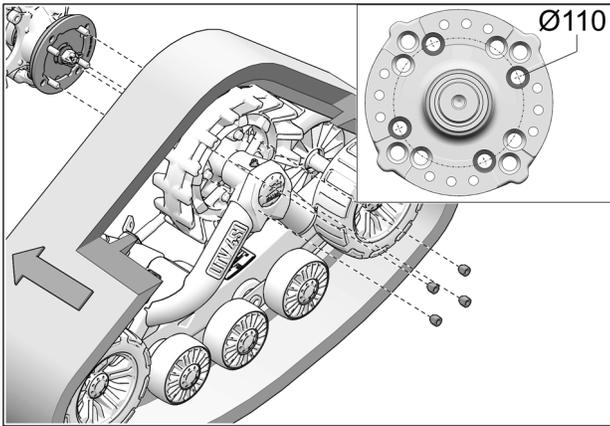

Fig. 24
11. Secure undercarriage to rear hub using the vehicle's wheel nuts. Use bolt circle $\varnothing 110$ mm. See Fig. 24